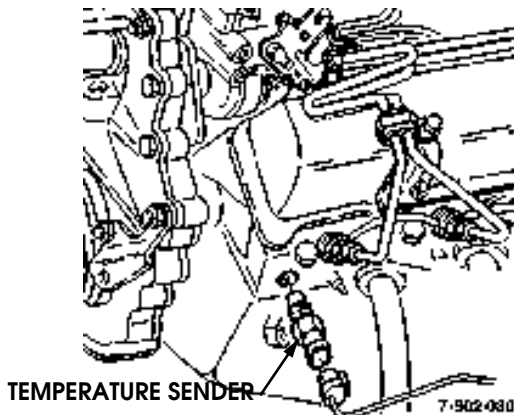

Figure 2-132: Temperature Sender Removal/Installation
2. Remove temperature sender from left side head (Figure 2-132).
9. Apply Permatex #2, or high temp sealant to threads of coolant temperature sender. Then install the switch in the left head (Figures 2-132).